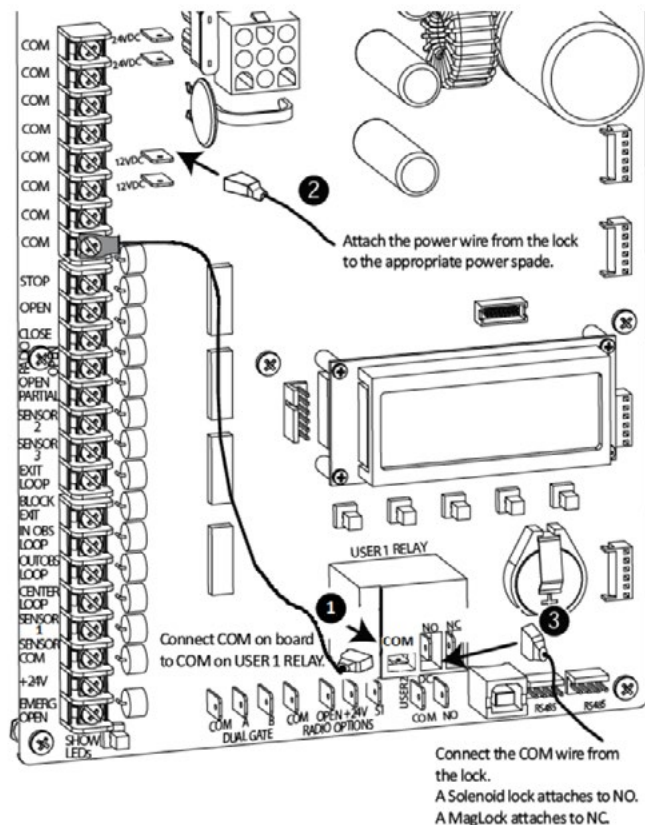

Figure 37. Lock Installation 12/24 VDC
1. Connect a wire between COM on USER 1 RELAY and a COM terminal on the electronics board. See Figure 37.